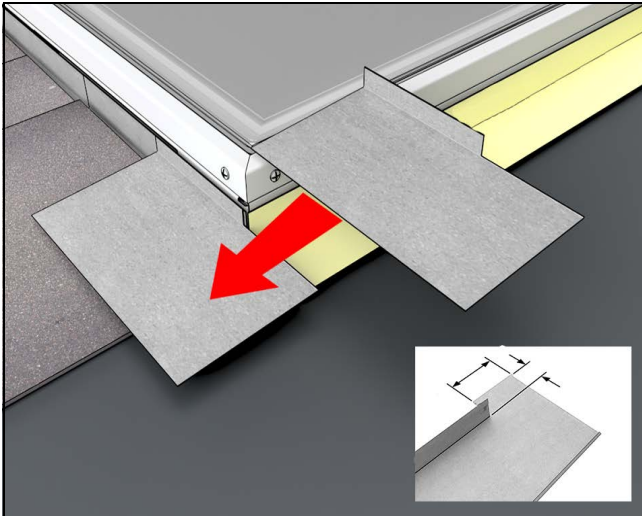

Figure 19
16. Last course is extended beyond the head jamb 2"-4". Note: vertical leg removed flush to head jamb. See Figure 19.